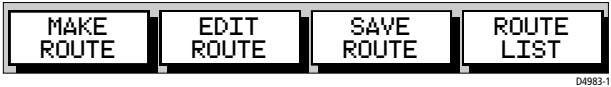

Figure 3-28: Route Soft Keys
1. Press the ROUTE soft key; the Route soft keys are displayed (Figure 3-28).